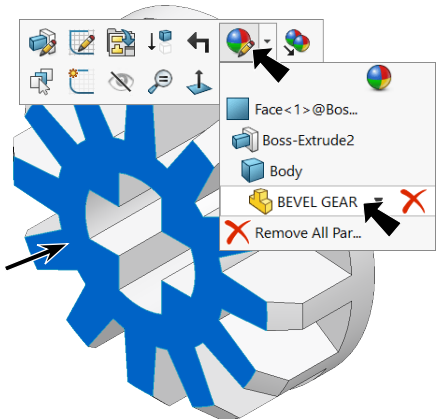

Fig. 35
Step 1. Click part, click **Appearance Callout** on the context toolbar and click **BEVEL GEAR**, Fig. 35.